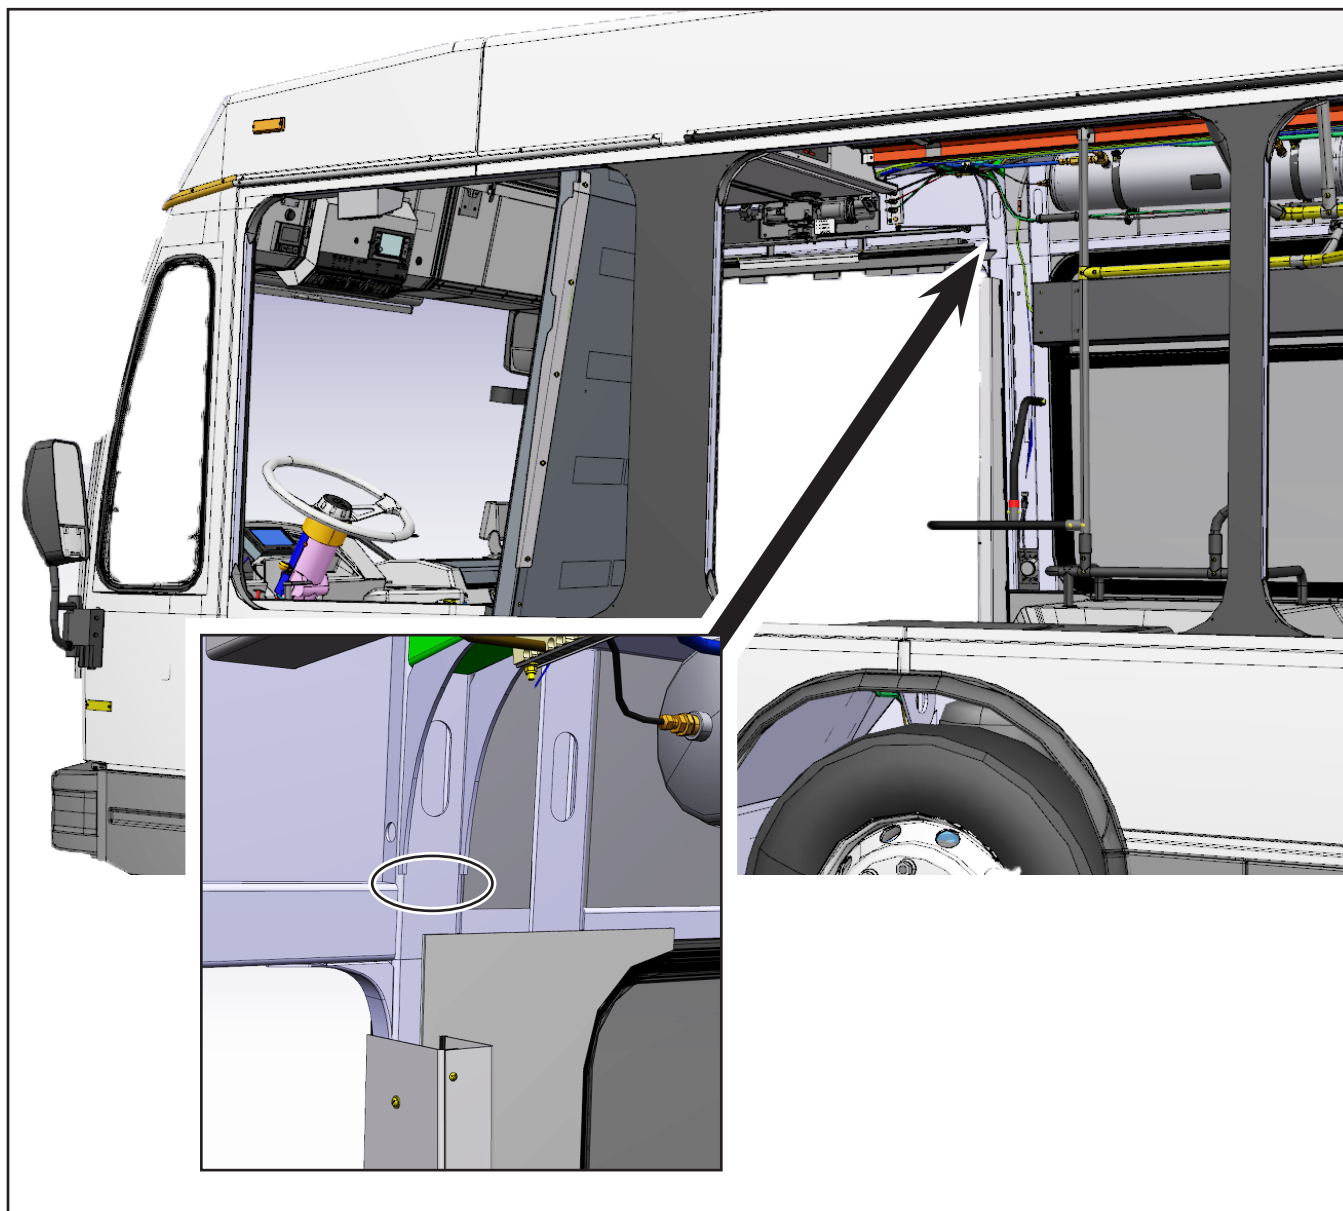

Figure 1 - Possible Crack Location
- 1.18. Inspect the location shown in Figure 1. If a crack is found, make 1/8" stop holes at both ends if possible.